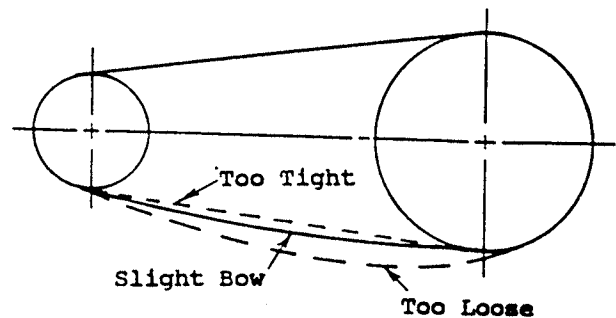

Figure 4. V-belt tension positions.
STEP 1. Reduce the center distance so that the belts may be placed over the sheaves and in the grooves without forcing them over the sides of the grooves. Arrange the belts so that both belt spans have approximately the same sag between the sheaves. Apply tension to the belts by increasing the center distance until the belts are snug, see Fig. 4.